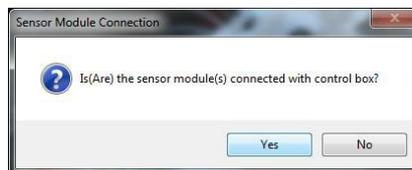

Figure 19. Select RS485 from the drop down menu
2. Next, click “No” button as in Figure 19.